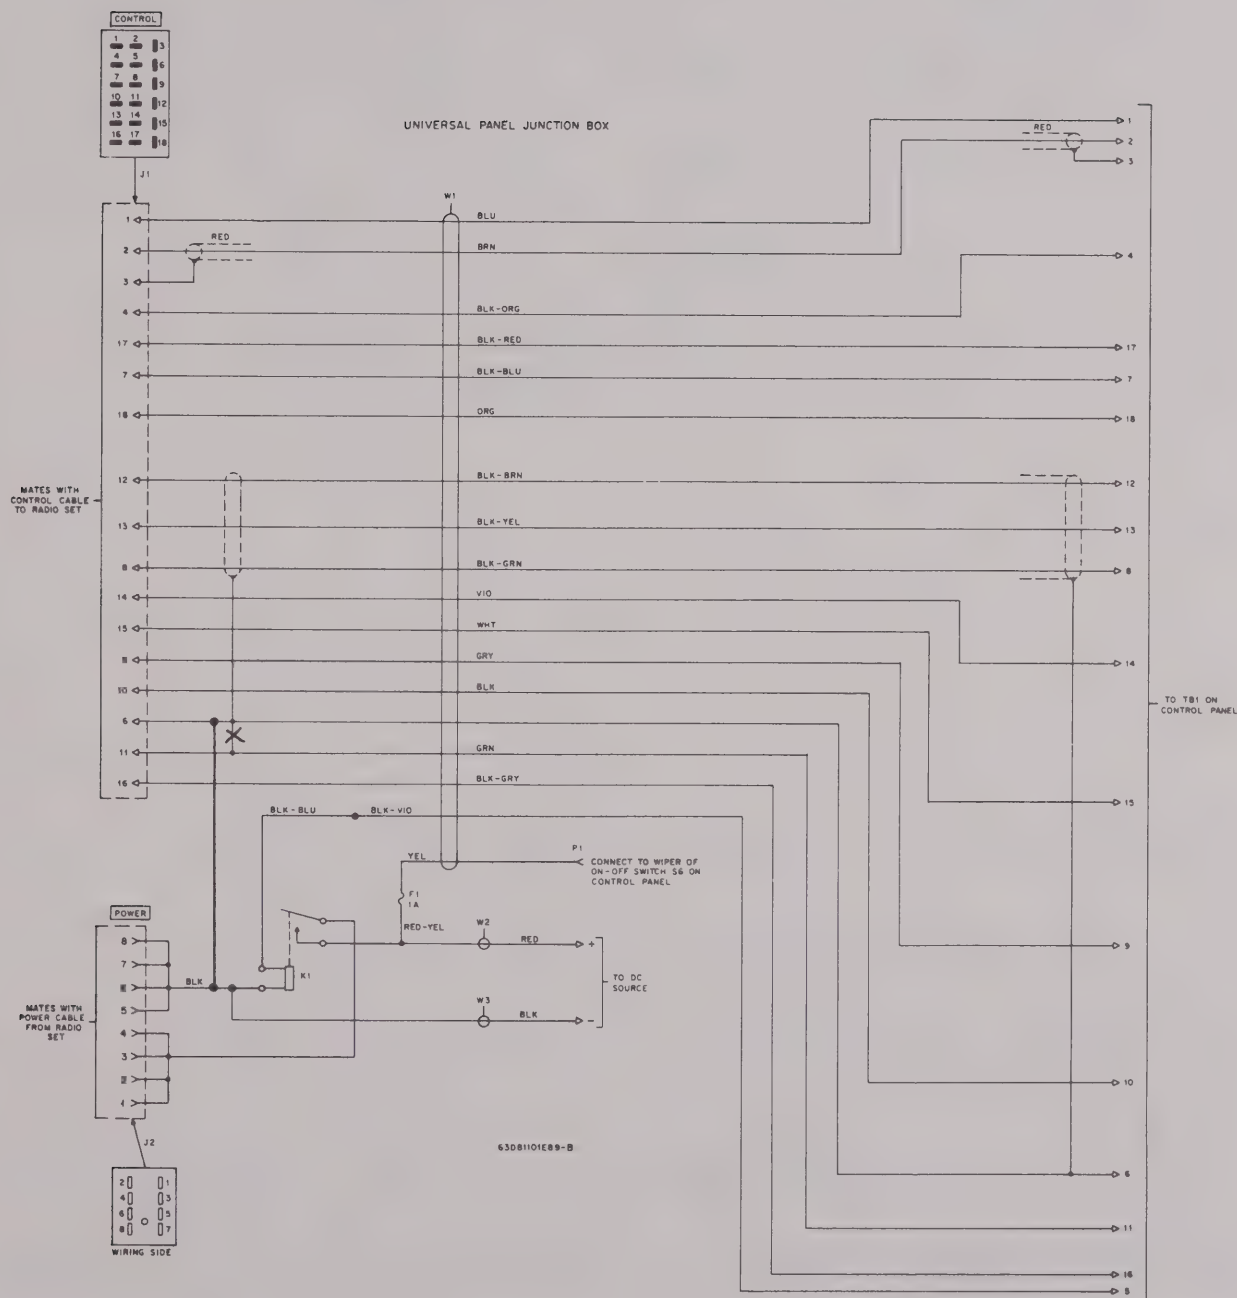

Figure 1. Modified TEK-27 Junction Box
- 3.1 In the TEK-27 Junction Box, remove the BLK wire between pins 6 and 11 of J1 (Refer to Figure 1).